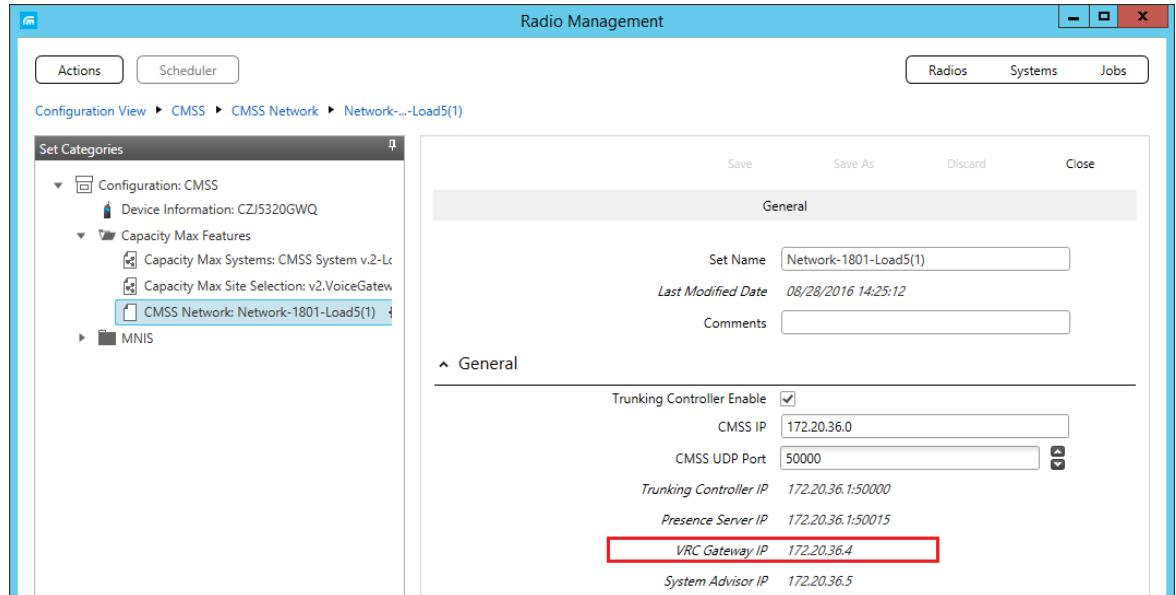

Figure 17: The IP address of the VRC Controller
2. In the left panel, click **CMSS Network** under **Capacity Max Features** (Figure 17).
IP	The IP address of the VRC Controller as specified in the Capacity Max system configuration (Figure 17).